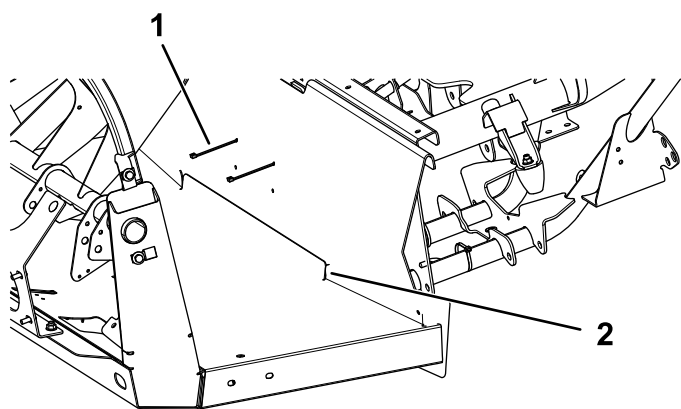

Figure 23
3. Fold down the flap and tuck the flap behind the floor flange (Figure 23).
4. Secure the flap with 2 cable ties around the center frame tube (Figure 23).